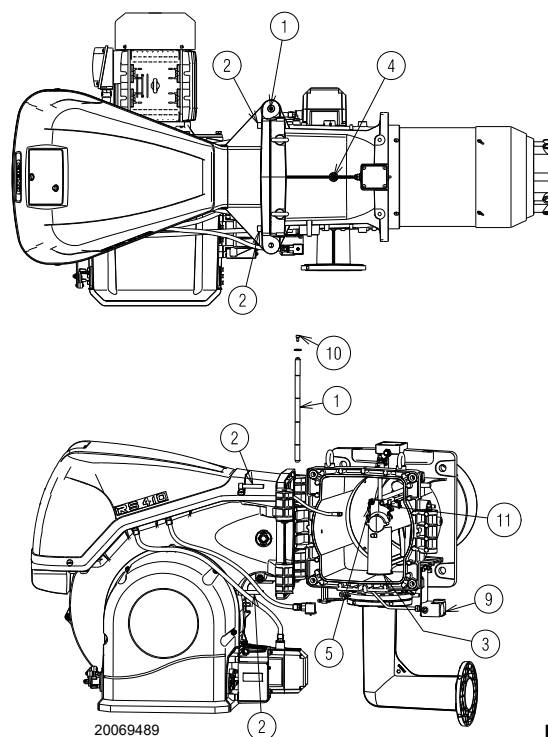

Fig. 12
The burner leaves the factory set for opening to the right, therefore maintaining the pin 1)(Fig. 12) in its housing.
- C fully open the burner as in Fig. 12;
To open the burner from the opposite side, before removing the pin 1)(Fig. 12), make sure that the 4 screws 2) are tight.
Disconnect the socket 9)(Fig. 12) of the maximum gas pressure switch, then proceed as described above at point B).